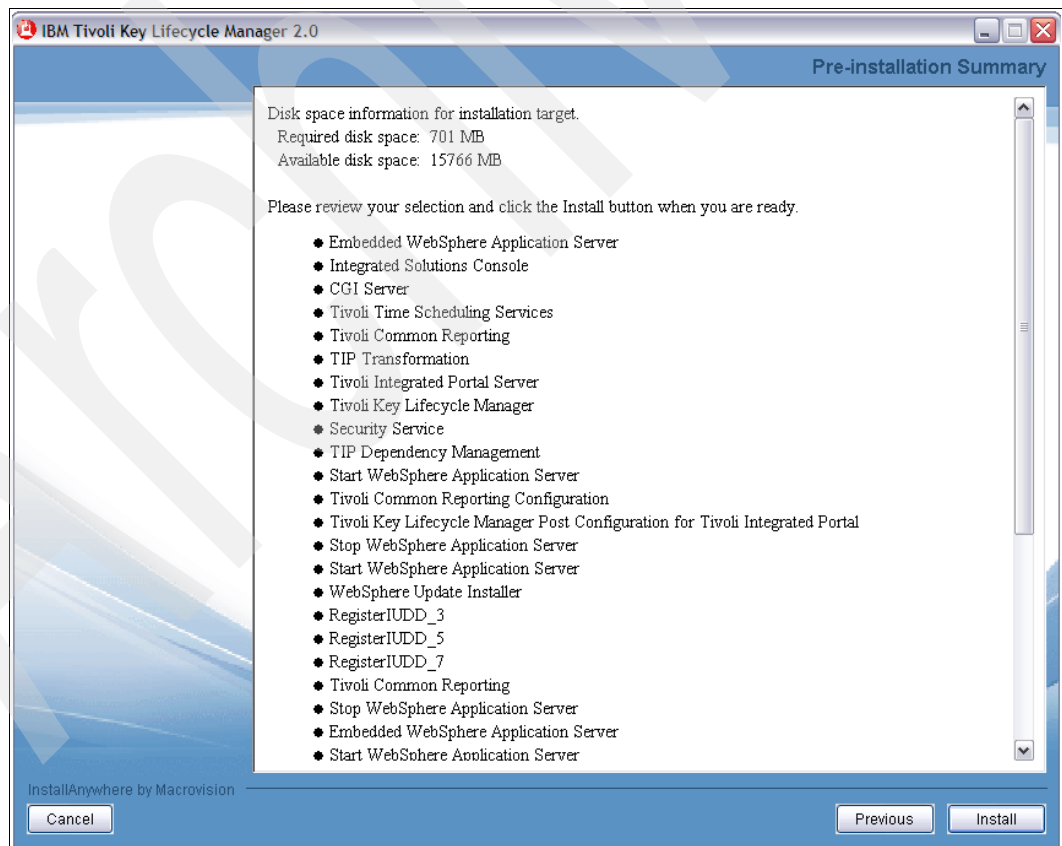

Figure 6-15 TKLM\_v2\_disk\_space
15. A summary with all applications and disk space usage is displayed before installation begins (Figure 6-15). Verify that the information is correct and click **Install**.